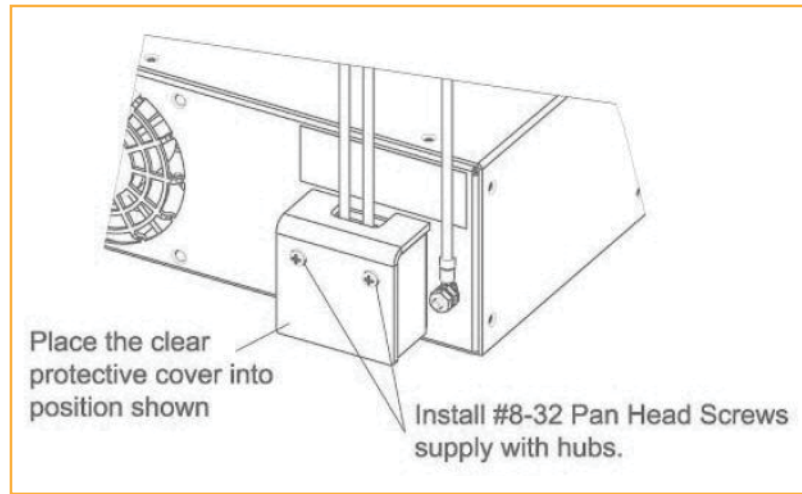

Figure 28. Pan Head Screw Location
- 8 Install the clear protective cover with the pan head screws as shown in Figure 28.